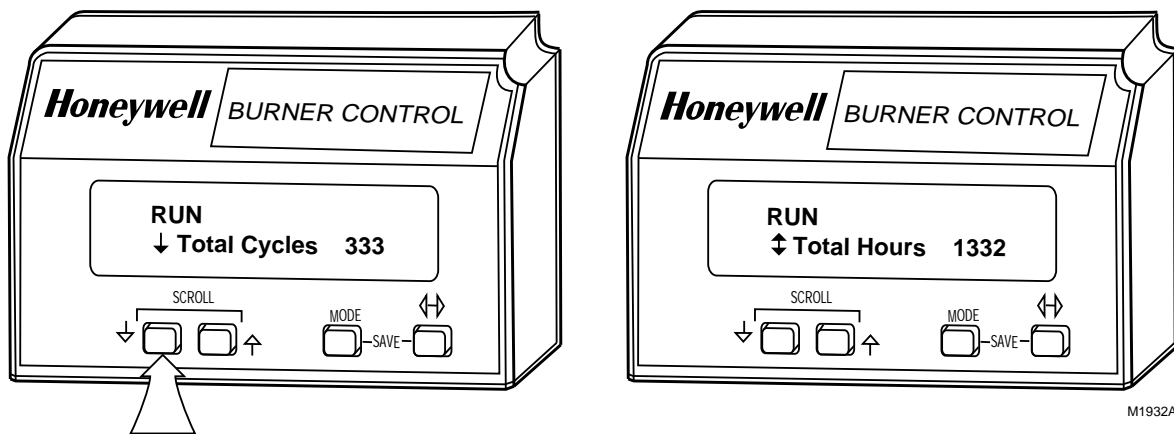

Fig. 18. (↕) SCROLL pushbutton function.
- ❶ SCROLL Down-Up pushbuttons (↕), see Fig. 18.